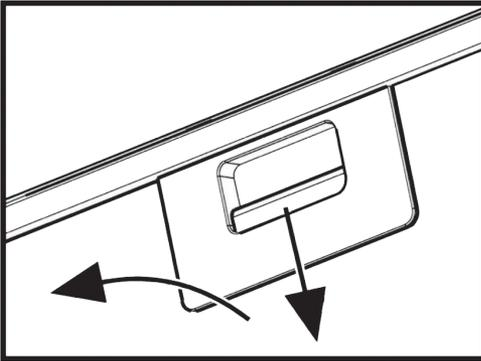

Fig. 6
7.10 To remove the aluminium filter (**Fig. 6**), press on the spring sliding part and, pulling down, remove the filter from the panel. Install the filter in the reverse order.